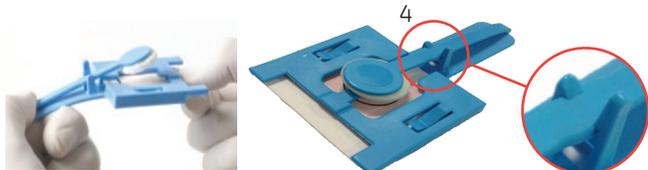

Figure 4
10. Release the foam head tab by flexing the device (Figure 4).
11. Pull the stem up to the top position on the stem lock (4), removing the foam head from contact with the FTA card.